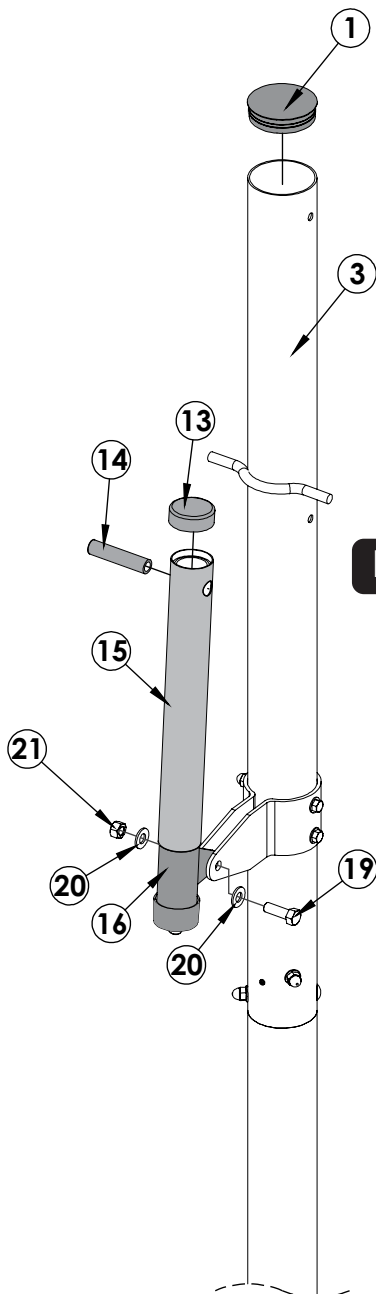

Figure 7
14. Slide actuator sleeve (#15) over actuator (#16) and place actuator cap (#13) on top. Slide pivot tube (#14) through hole near top of both the **Steel Actuator & Plastic Actuator Sleeve** until equal amounts stick out through both sides of actuator. See **Figure 7**.
15. Slide tab on actuator (#16) between post Ears (#30) and Secure using one bolt (#19), two washers (#20) and one lock nut (#21). See **Figure 7**. This is a pivot point, tighten bolt but do not over tighten.